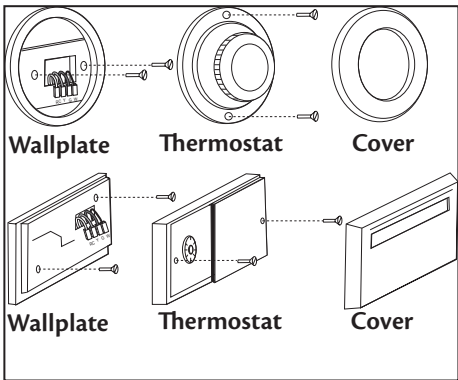

Figure 1.
2. Remove the cover to your existing thermostat. Some thermostats may have screws or other locking devices that must first be removed. Once the wallplate is exposed, locate the wire terminals and try to identify the wire designations. If the wire terminals are not visible, they may be connected to the back of the wallplate. Look for any additional screws, tabs, or locking devices to remove the wallplate. See Figure 1. If you are still unable to find the terminals for the wires, it may be necessary to contact the manufacturer of the original thermostat.